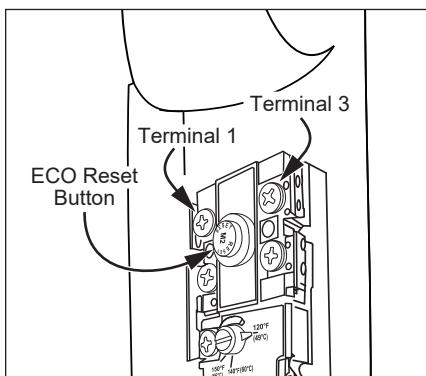

Figure 36 - Energy Cut Off (ECO) Button.
Check the Top Two Screws of the ECO Using a Non-Contact Circuit Tester and Confirm that Power is OFF (screw terminals 1 and 3 shown in Figure 36).
- Press the red ECO reset button (Figure 36).